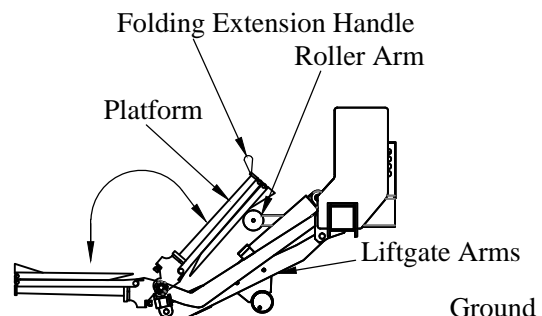

Figure 38: Step 15.
- With the liftgate arms touching the ground, stand to the side of the platform, and fold the platform closed until it rests on the roller arm (Figure 38).